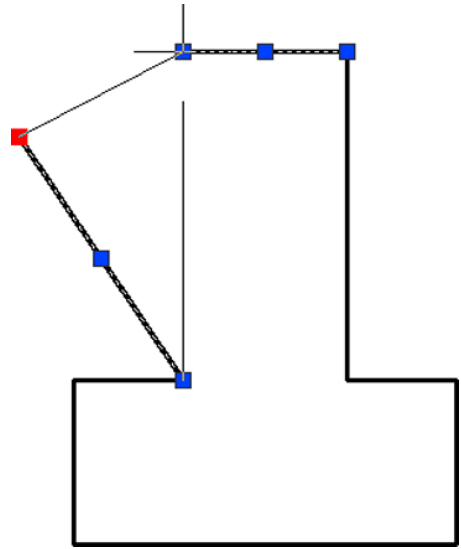

FIGURE 11-10:
- » Use object snaps to existing objects to specify the new location. You can drag one grip until it's close to a grip on another object and snaps to it, even if object snap modes are turned off. Figure 11-10 shows a *hot* (red) endpoint grip of a line being connected to the endpoint grip of another line. The angled line shows the original position of the line being edited, and the thin vertical line shows the new position. Using a grip in this way as a visible object snap offers the same advantage as using Object Snap overrides (as described in Chapter 7): It ensures precision by making objects meet exactly.